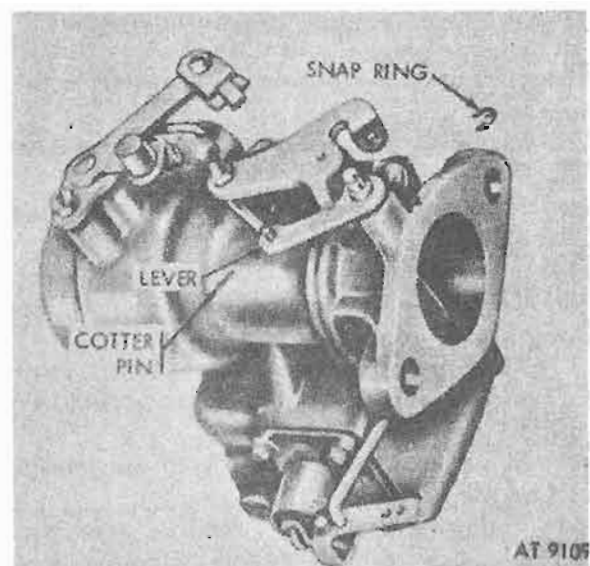

Figure 5-18. Idle lever.
(7) Remove cotter pin from fast-idle cam lever (fig. 5-18).
(8) Remove snap ring and lift off cam lever (fig. 5-18).